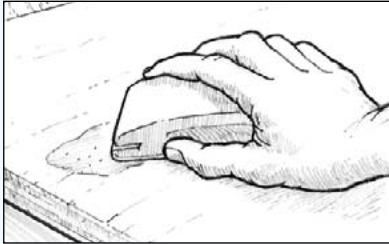

Figure 23 Sand cured fairing compound to desired contour.
6. Sand the fairing material to blend with the surrounding contour (*Figure 23*). Begin with 50-grit sandpaper if it is necessary to remove a lot of fairing material. Use 80-grit paper when close to the final contour.